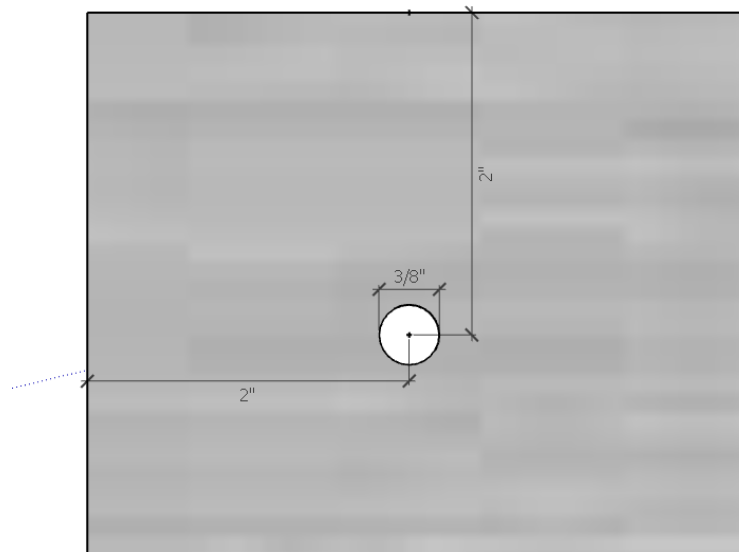

Figure 66: Drilling 3/8" Drainage Holes in the Corners of the Back Panel
On each corner of the sheet metal, measure 2" from the top or bottom, and 2" from the side as shown in Figure 66. Drill a 3/8" (D) hole through the sheet metal back panel and unfastened flashing. These will create drainage holes.